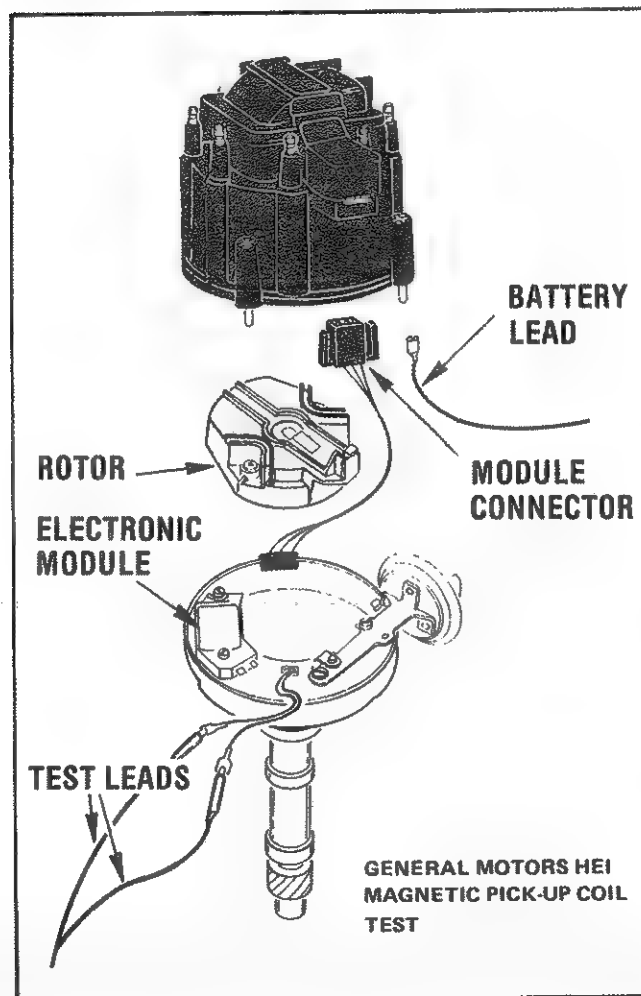

Figure 21. HEI Pick-Up Coil Test Hookup.
4. Remove the two wires from the pick-up coil side of the electronic module, and connect the Red and Black test leads to the wires as shown in figure 21.